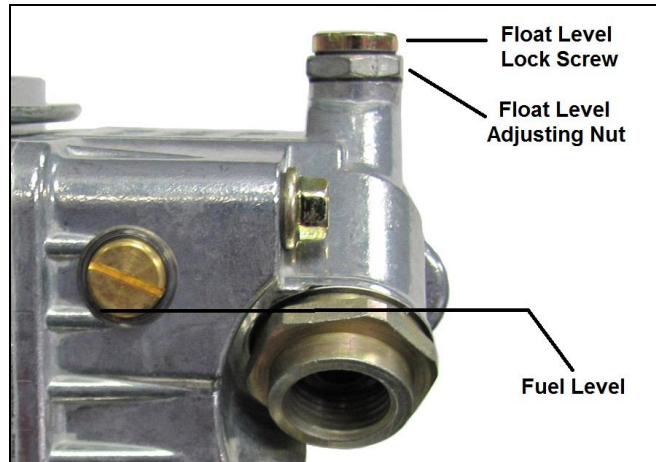

Figure 13
2. Remove the sight plug and observe the fuel level. If none is seen, the level is too low. If it is higher than the bottom of the sight hole, it will spill out when the plug is removed - this is too high. **NOTE:** A properly set float level will have the fuel level located at the bottom edge of the sight hole, as shown by the line in **Figure 13**.